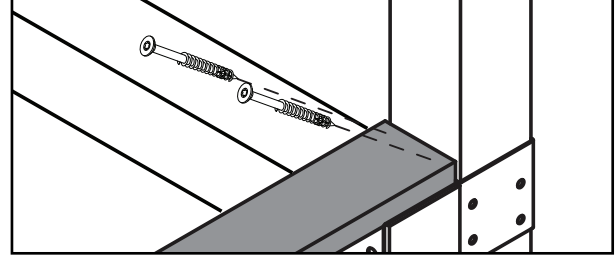

Fig. 6a
2. Install remaining 5/4" boards as shown in **(Fig. 6a)**.